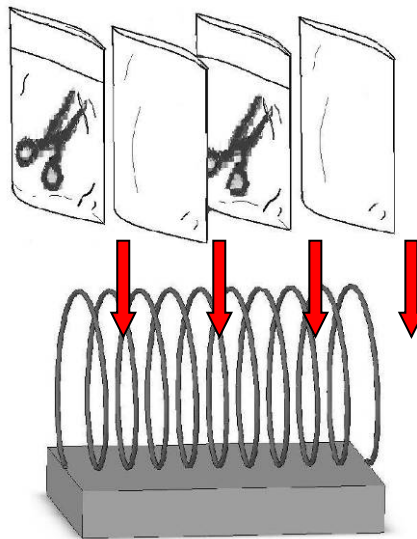
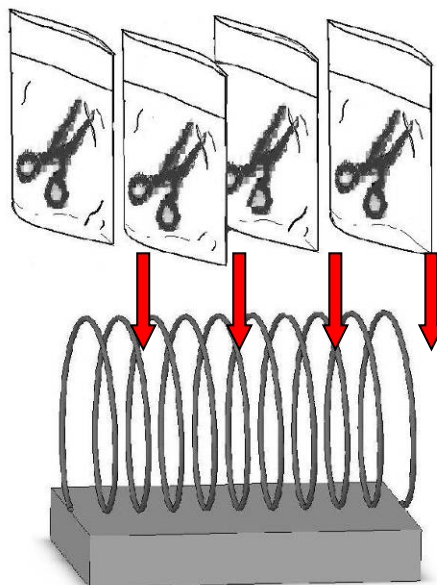

Figure 25
Figure 26
**Warning:** We suggest using Spring Holder for items with sterilizing pouches to assure sterilization result. Follow Figure 25 or Figure 26 to place each pouch separately. Spring holder is available as an optional accessory.